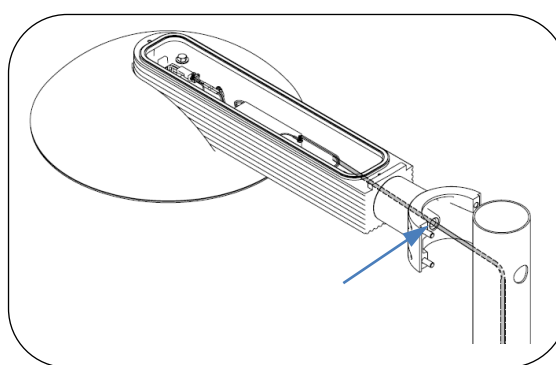
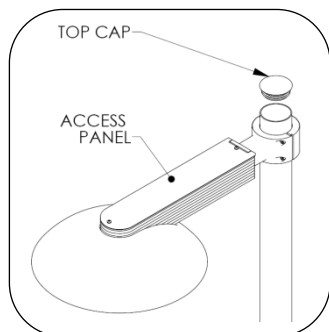

Fig. 2 - Install luminaire
Fig. 4 – Install top cap
3. Route the wires through the luminaire mounting bracket, see Fig 2. Ensure wires are routed through the opening in the luminaire and are not pinched. Refer to wiring diagrams on page 3.
4. Attach the luminaire bracket to the clamp, or other luminaire if mounting double luminaires, on the pole using (4) socket head cap screws, lock washers and flat washers.
6. Reattach luminaire cover with (2) ¼-20 machine screws and sealing washers that were removed in step 2. See Fig. 4.